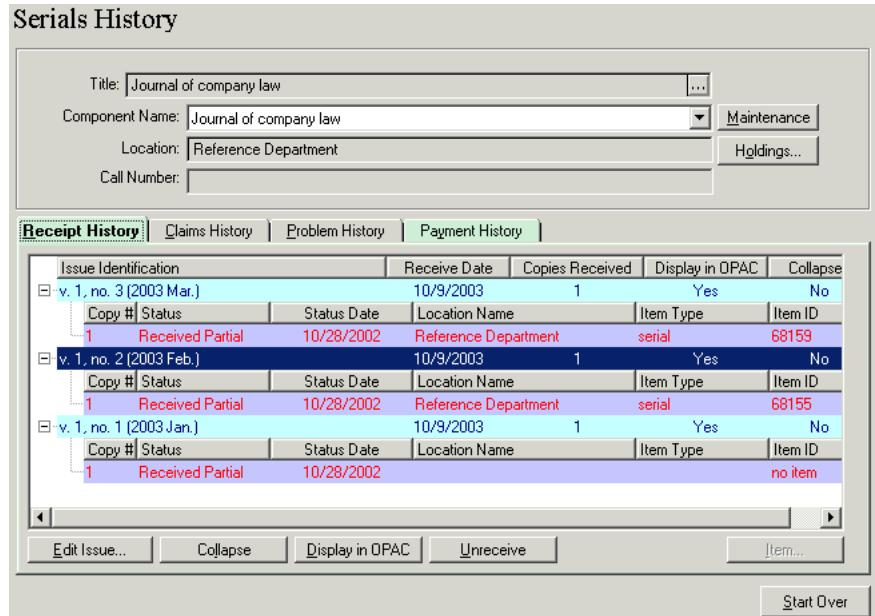

Figure 13-13. Serials History workspace - Holdings button displayed
- The **Holdings** button on the **Serials History** workspace. There are numerous ways to display the **Serials History** workspace (Figure 13-13). See Serials History Information on page 9-28 for more information.